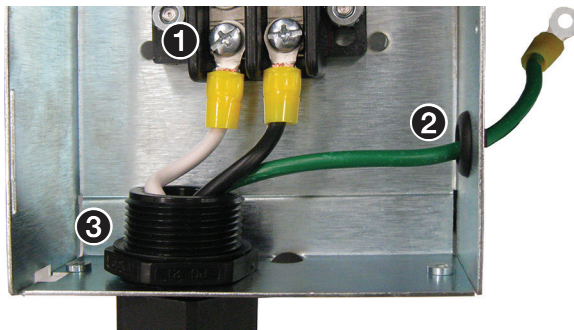

Figure 45. Power Distribution Box Interior
7. Disconnect the two external wiring terminal lugs from the terminal block inside the matrix switcher power distribution box (see figure 45, ①). Retain the screws.